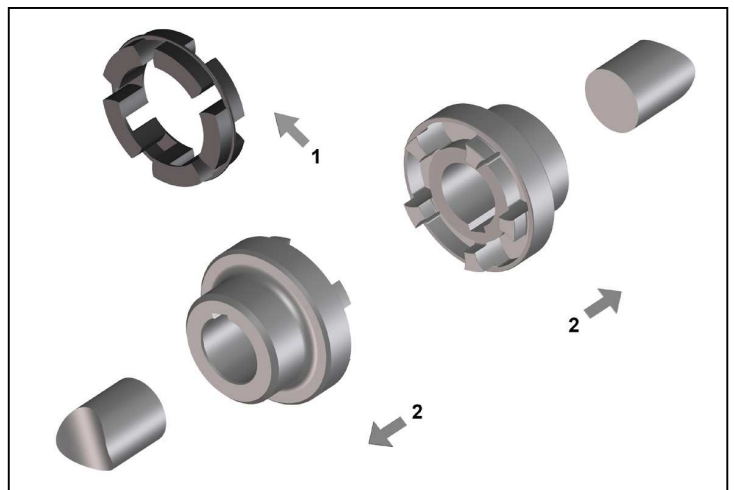

Fig. 3
- Remove the elastic intermediate ring (Figure 3, Pos. 1).
- Pull the coupling hub onto the shaft end in its intended position (Figure 3, Pos.2).